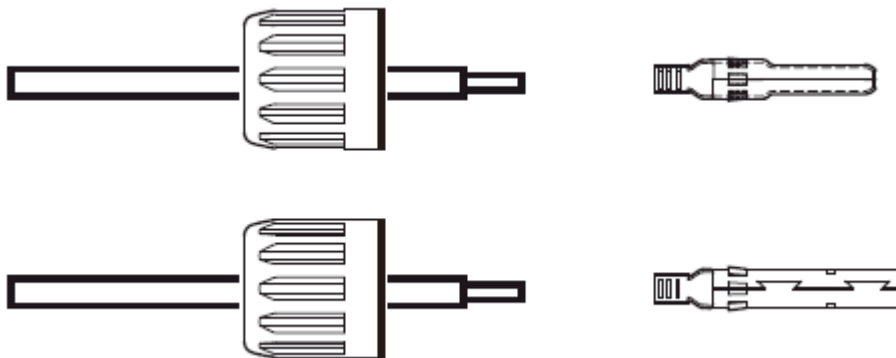

Figure 7.12.2 Insert the Wire into the Connector Cap nut and contact pin
- 2) Insert the wire into the connector cap nut and contact pin. (see Figure 7.12.2)